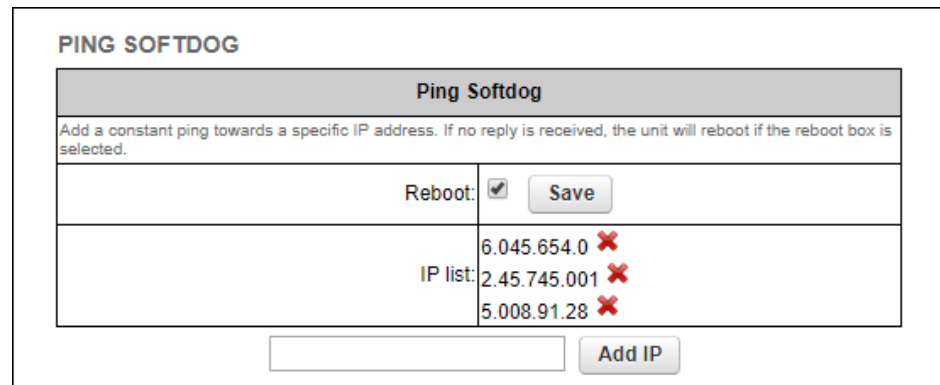

Figure 27. Configurator GUI (Ping Softdog dialog)
- The **PING SOFTDOG** dialog will be shown (Figure 27 \(page 73\)).